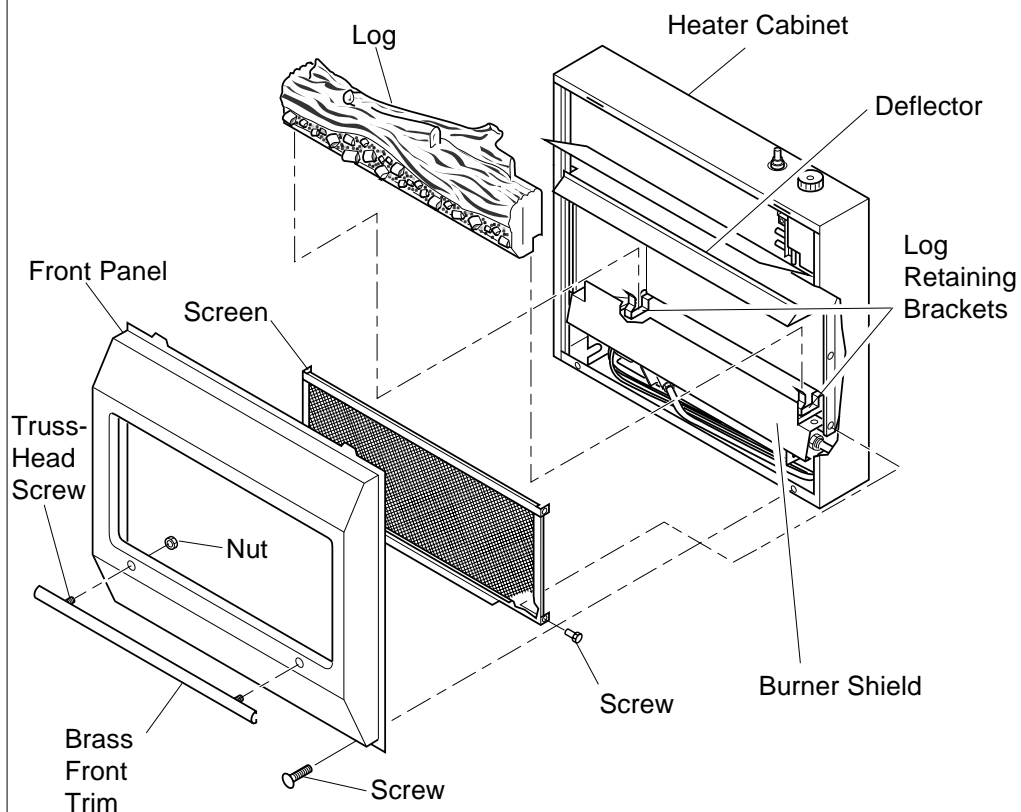

Figure 4 - Assembling Heater
4. Gently slide log between log retaining brackets on deflector assembly (see Figure 4, page 6). The log should fit firmly against bottom of log retaining brackets.
3. Line up screws with holes in front panel (see Figure 4). Insert screws in holes. Attach nuts from inside of front panel. Tighten with wrench.